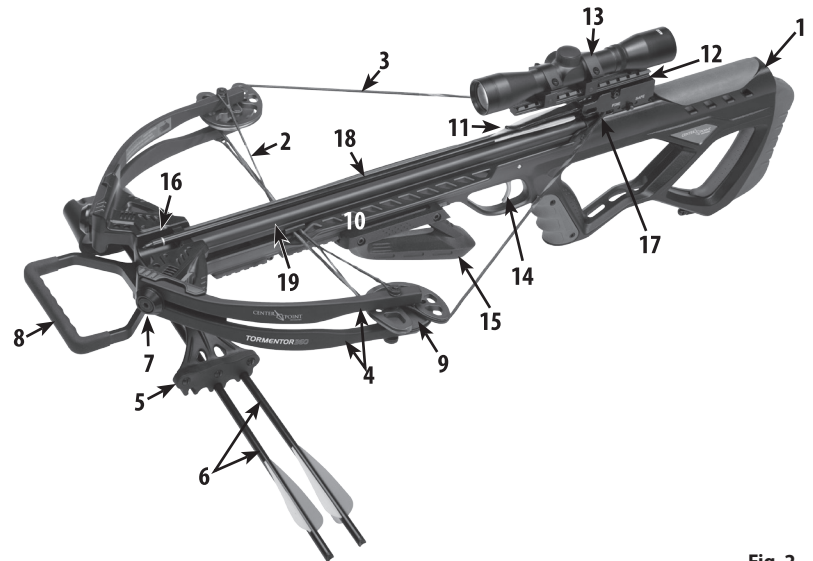

Fig. 2
3. LEARNING THE PARTS OF THE CROSSBOW (see Fig. 2)